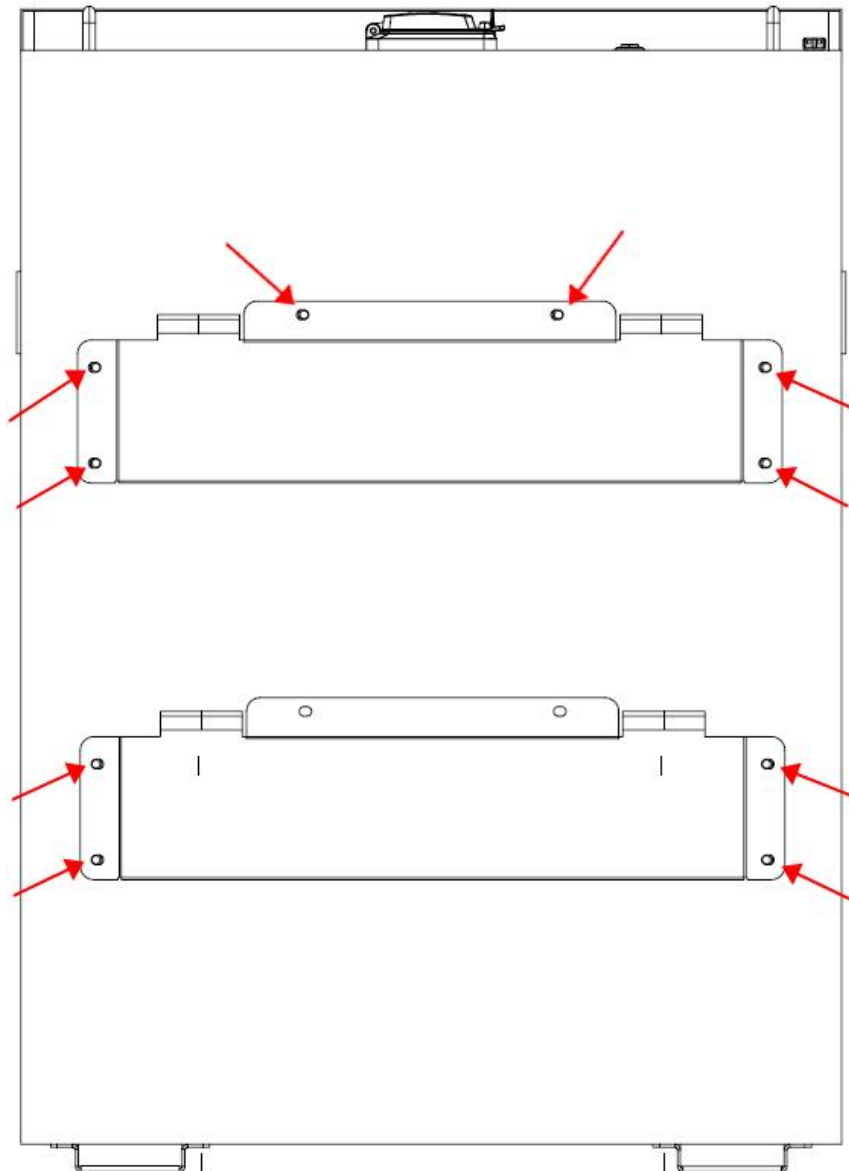
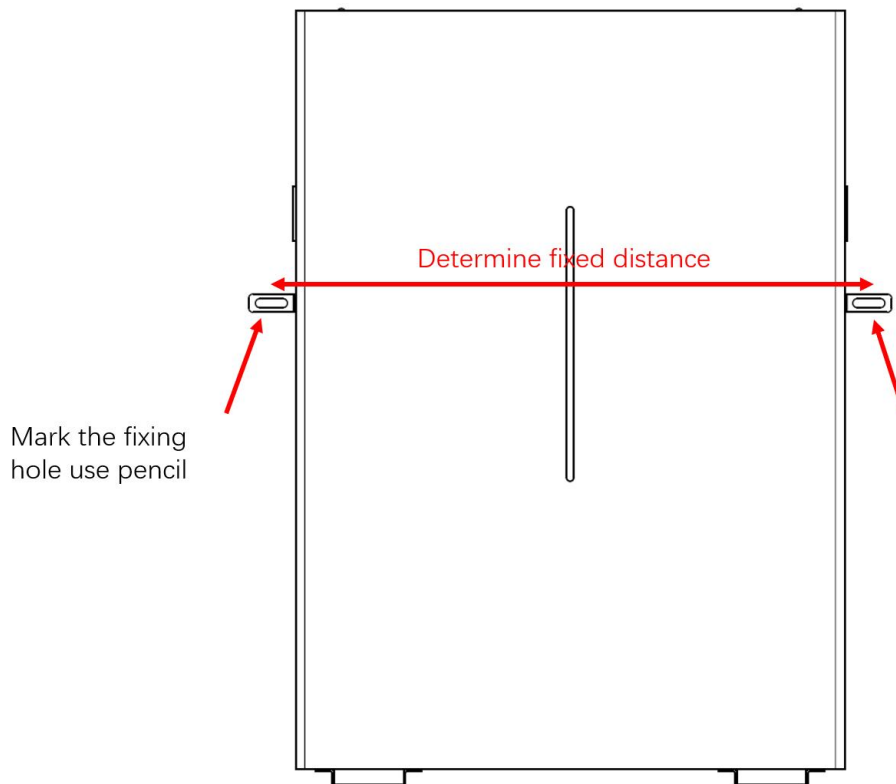

Figure 5-2
Figure 5-5
d) Use the 10 screws of M6 to fix the backplane to the back of the battery as shown in Figure 5-2.
b) Stand the battery on the side of the wall, mark the location of the fixing hole, Choose the recommend drill head (as shown in below picture) to drill 2 holes on the wall, 100-110mm deep, as shown in Figure 5-2 and Figure 5-5.
c) Use a proper hammer to fixing the battery to the wall, fit the expansion bolt into the holes, as shown in Figure 5-2.